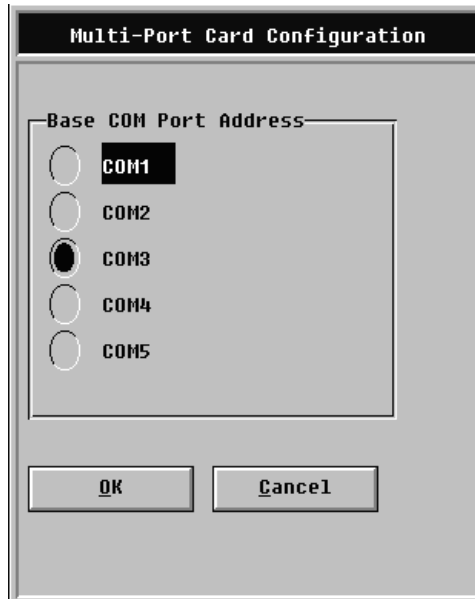

Figure 3-4. Multi-Port Card Configuration Dialog
4. Use the mouse to highlight the option, and then select the **Add** button at the bottom of the screen to configure the port controller card. The system displays the Generic Port Configuration screen shown in Figure 3-4.